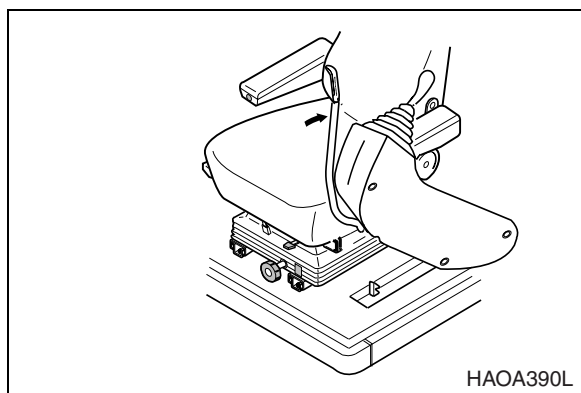

Figure 89
When leaving operator's seat, set the safety lever to "LOCK" (Figure 89) position, if not a serious accident could occur by accidentally moving the work levers (joysticks).
2. Set safety lever (Figure 89) on "LOCK."